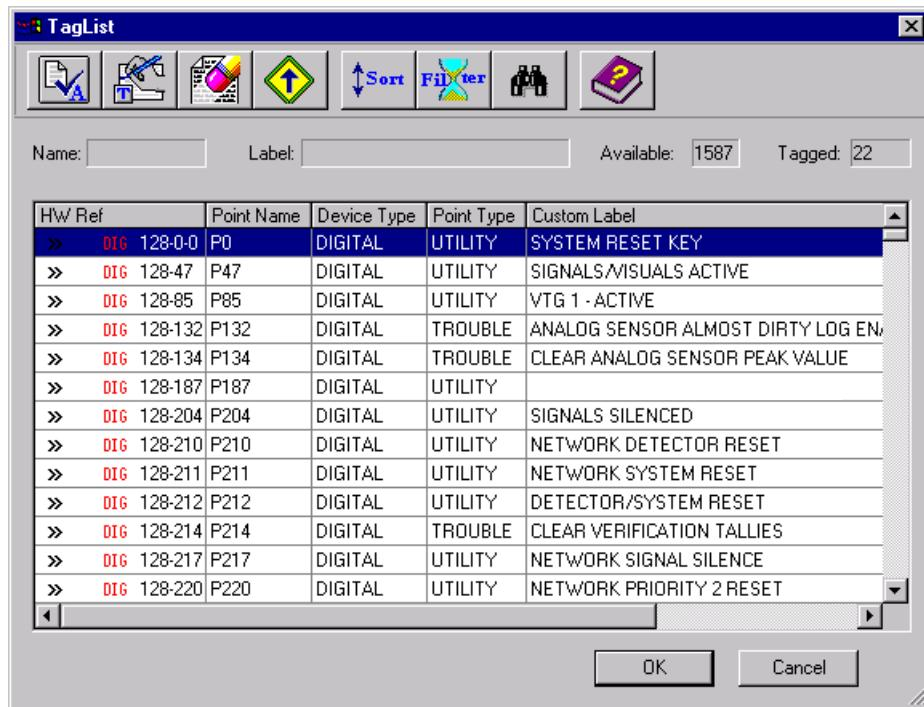

Figure 13-3. Tag List for External Points
2. Click OK. The tag list shown in Figure 13-3 appears. This taglist contains all of the points that are currently declared public on the node selected in Step 1 above.